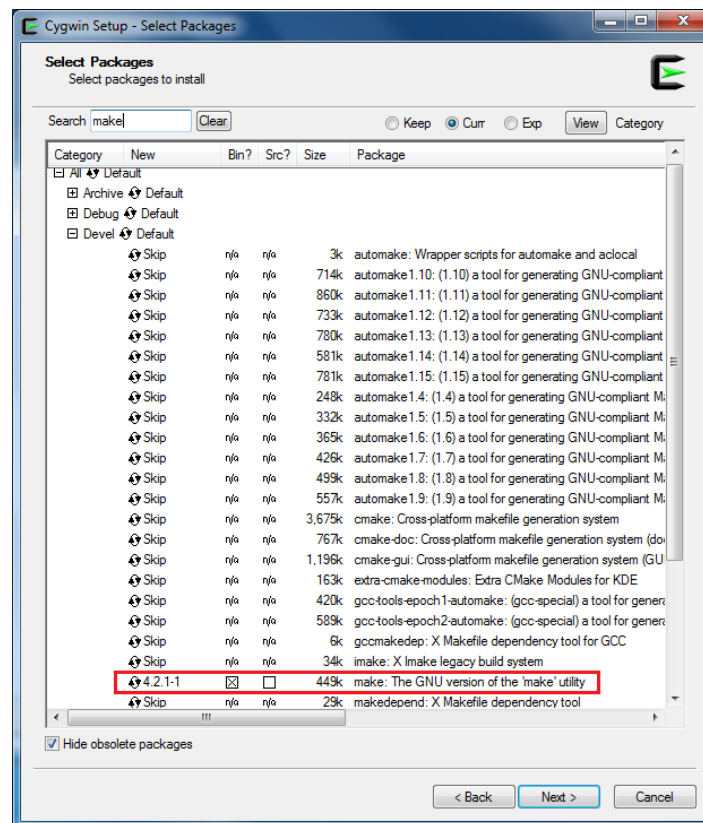
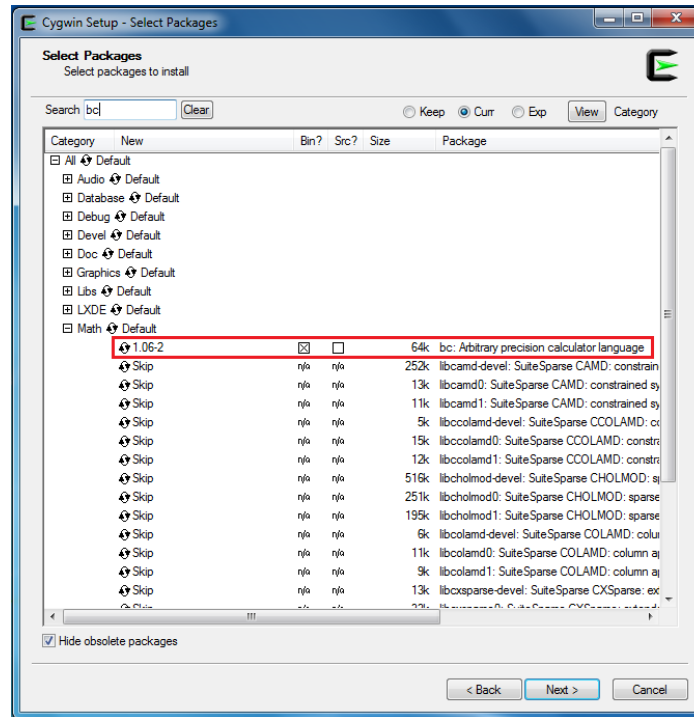

Fig 1-1 'Devel' setting during Cygwin installation
Fig 1-2 'Math' setting during Cygwin installation
- During the installation of Cygwin package, include 'Devel -> make' and 'Math -> bc' utilities on the **Select Packages** step, as Fig 1-1 and Fig 1-2 shows.